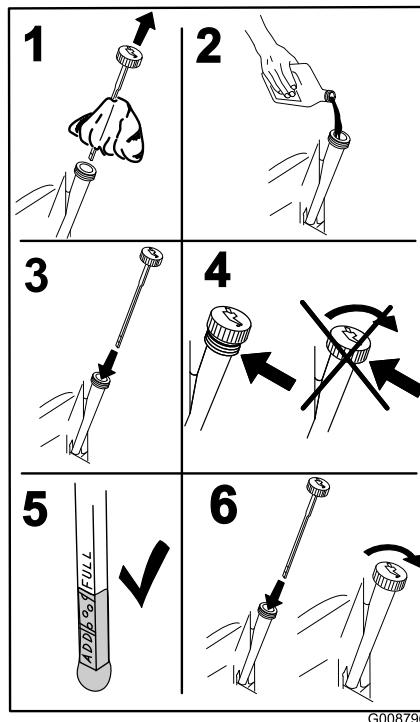

Figure 50
5. Slowly pour approximately 80% of the specified oil into the filler tube and slowly add the additional oil to bring it to the **Full** mark (Figure 50).